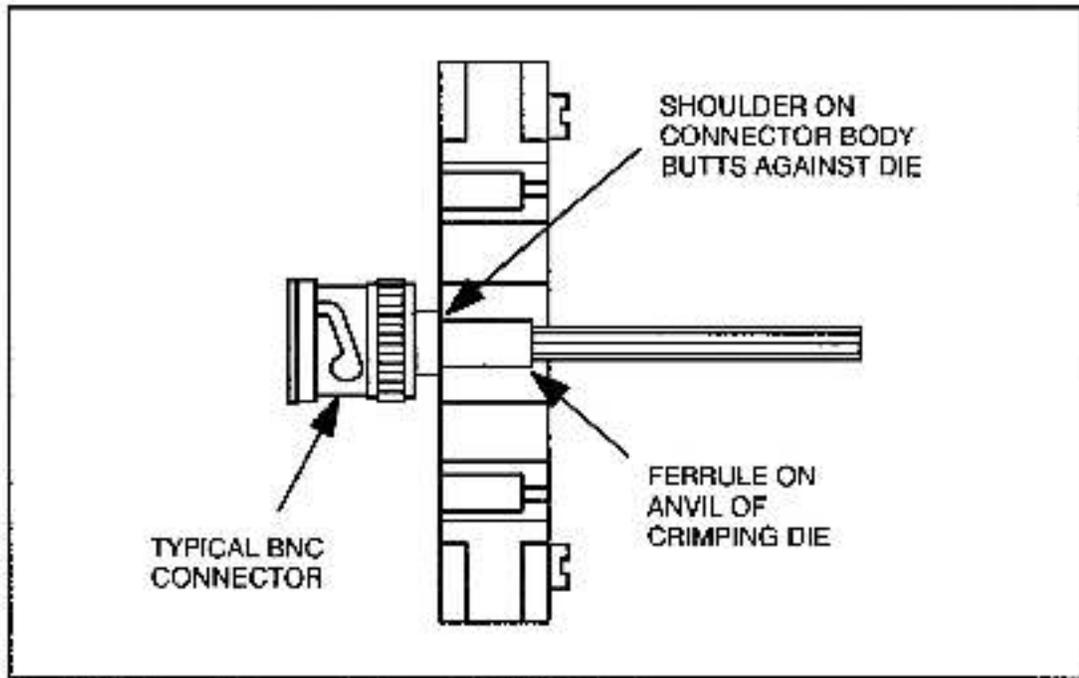

Figure 3.14 - Connector Installation Step 9 for RG-59/U Cable
- Step 9. Place the ferrule on the anvil of the die assembly so that the shoulder on the connector body butts against the die, as shown in figure 3.14.